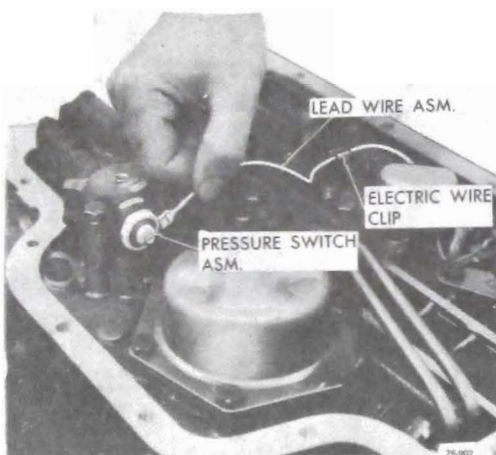

Figure 76-512A
1. Disconnect the lead wire assembly from the pressure switch assembly. See Figure 76-512A.